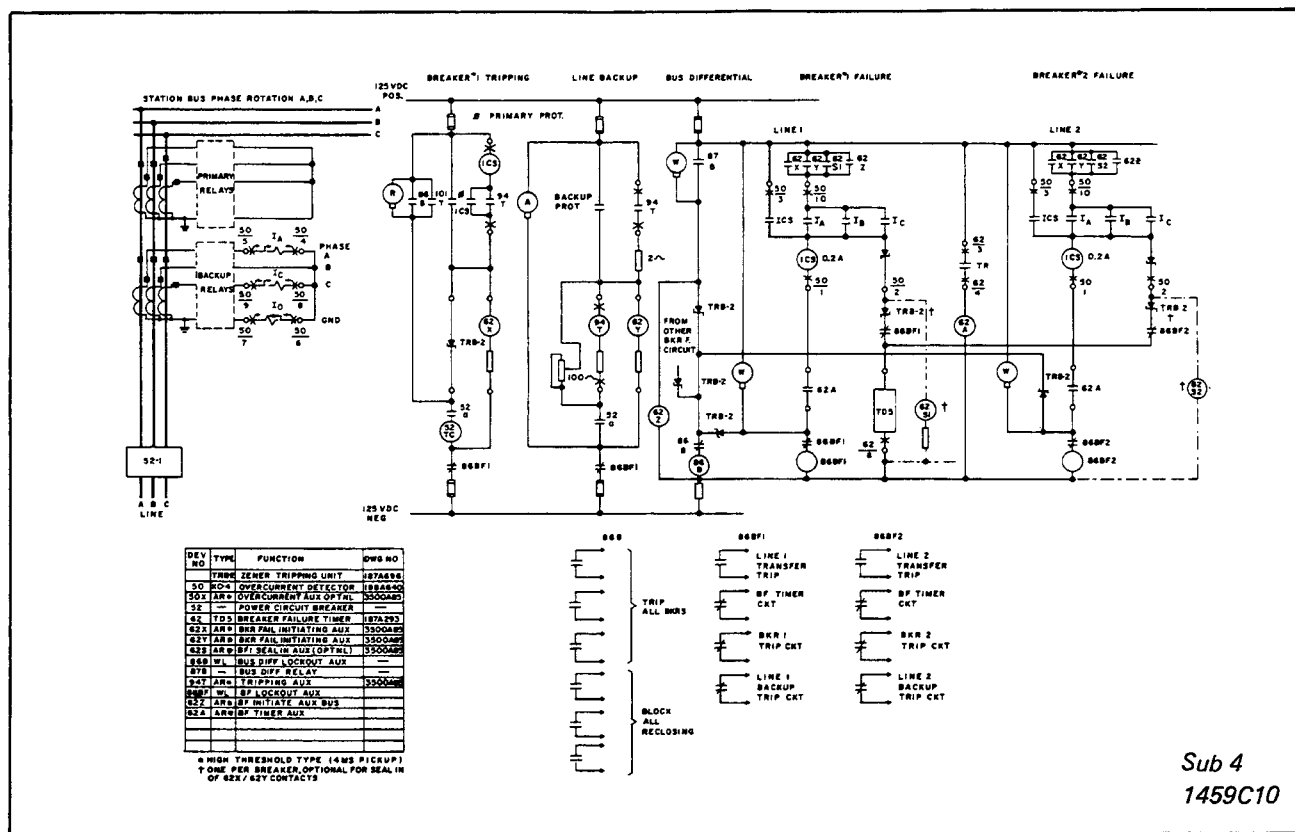

Fig. 2. External Connections for the KC-4 Relay - Breaker Failure Protection of a Single Bus/Single Breaker Arrangement - One Timer per Bus.
Figure 2 shows the simplest breaker-failure scheme using the KC-4 relay. Primary and backup line relays connected to separate current transformers and separately-fused dc supplies so that a failure in either circuit will not disable all of the protection. When primary protection operates, it energizes auxiliary relay 62X and the breaker trip coil simultaneously. Similarly, backup relays energize both tripping auxiliary 94T and auxiliary 62Y simultaneously. 62X and 62Y are known as breaker-failure initiate (BFI) auxiliaries. The closure of contacts 62X and 62Y provide a signal in the breaker failure scheme that breaker tripping
Note that, in figure 2, each breaker has its own line protection relays, BFI auxiliary and KC-4 current detector; but that all of these funnel into a single TD-5 timer. This is done for economy since the same tripping device, 86B, is energized regardless of which breaker fails. Targeting of the particular failed breaker is accomplished by the ICS in the associated KC-4 in conjunction with the 62X and 62Y BFI contacts for that line. The zener blocking diode inside each KC-4, connected to
Figure 2 also shows how BFI seal-in can be provided when one timer is used per bus. The TD-5 relay containing the TX relay cannot be used here. A separate 62Z auxiliary relay is provided for each breaker, each with a TRB-2 blocking diode to isolate the circuits on multiple breakers from one another.
Although using a separate timer for each breaker is more costly than the scheme of figure 2, there are several performance advantages:
- (1) For a fault which begins on one line and subsequently spreads to another (such as can occur on a double-circuit tower), the common timer in figure 2 will be energized by the initial fault. However, even if the breaker clears the first line affected, the 62X and Y contacts and KC-4 relay of the second faulted line will keep the timer energized. The time delay may expire and the bus may be stripped before the second breaker clears the fault, even though no breaker failed.